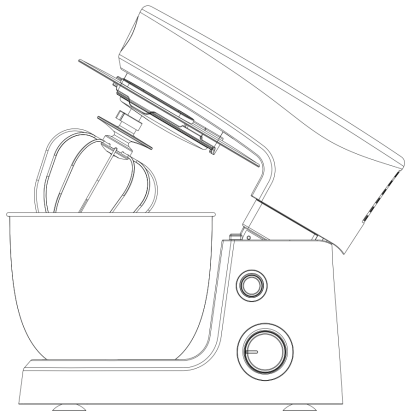

Fig.1
- Place the mixing bowl on position. First place the bowl on the base, then turn the bowl in clockwise until it locks into the right position (see fig.1).